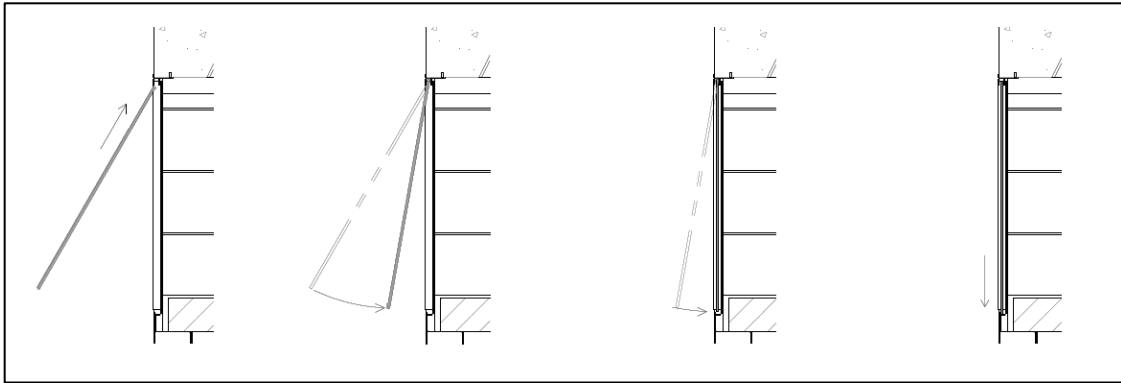

FIGURE 72
- 3) With the panel in an upright orientation, angle the top of the glass towards fireplace and insert the top edge of the glass panel into the channel of the Top Glass Bracket. In the same motion, raise the glass panel's top edge to fully seat in the Top Glass Bracket while swinging the bottom edge of the glass panel in towards the fireplace. The bottom edge of the glass should align to the rear ledge of the Air Collector Box's glass bracket, and the glass should be in a vertical orientation. Gently allow the glass panel to seat into the bottom Air Collector Box glass bracket (**Figure 72**).